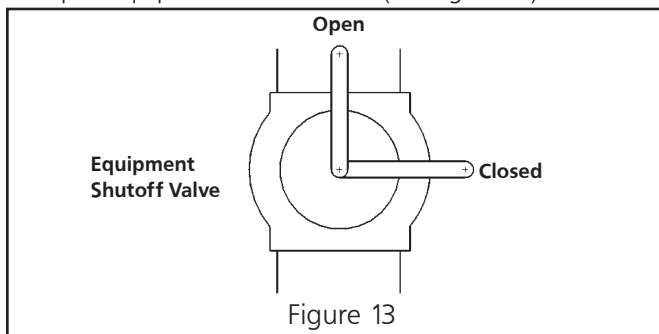

Figure 13
1. The appliance must be isolated from the gas supply piping system by closing its equipment shutoff valve during any pressure testing of the gas supply piping system at test pressures equal to or less than ½ psi (3.5 kPa). (see figure 13).
3. Open equipment shutoff valve (see figure 13).